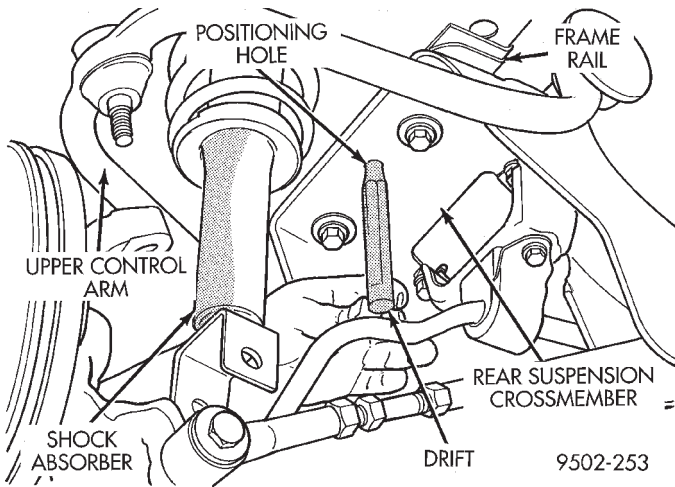

Fig. 29 Locating Rear Suspension Crossmember In Vehicle
(3) Position an appropriate size drift into the positioning hole in each side of rear suspension crossmember and crossmember locating holes in frame rails of the vehicle (Fig. 29). This is required to properly position rear suspension crossmember in the body of the vehicle. Then tighten the 4 crossmember to frame rail attaching bolts to 108 N·m (80 ft. lbs.). Remove drifts from rear suspension crossmember.